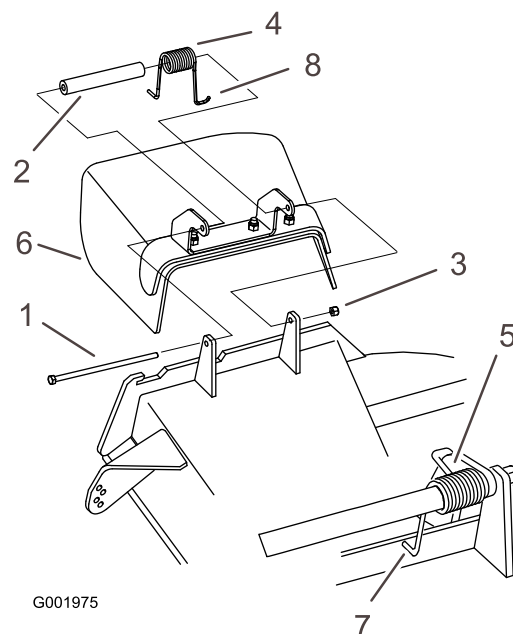

Figure 85
1. Remove the locknut, bolt, spring, and spacer holding the deflector to the pivot brackets (Figure 85).
Note: Make sure that 1 J-hook end of spring is installed behind deck edge before installing the bolt as shown in Figure 85.
6. Place 1 J-hook end of the spring around the grass deflector (Figure 85).